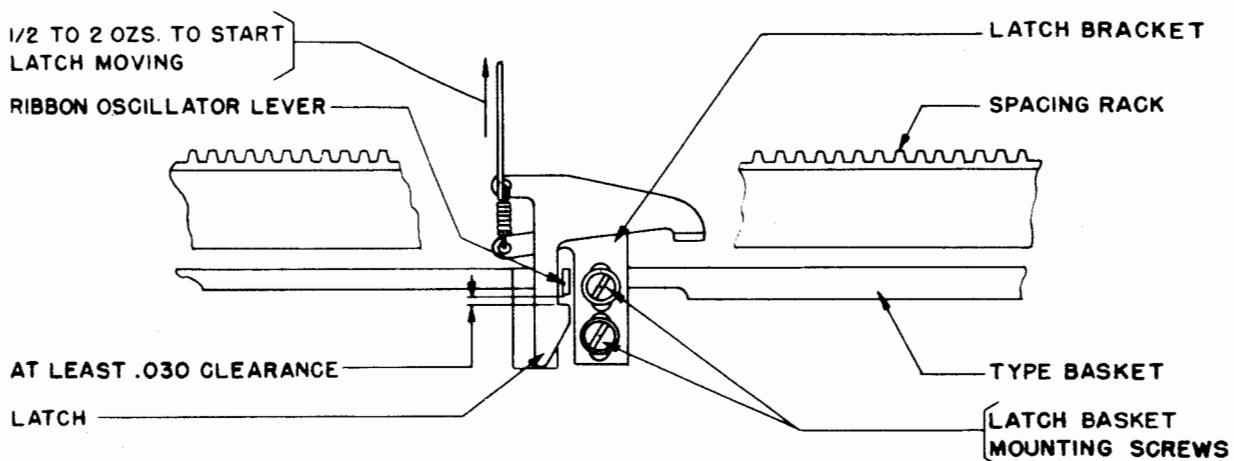

Figure 8
against the ribbon there should be some clearance, maximum 0.025 inch, between the bottom edge of the imprint made by the comma and the top edge of the red portion of the ribbon. See Figure 8.
With the ribbon-oscillator lever held to the rear of the type basket so that it just touches either the carriage-frame casting or the lock-nut for the upper-carriage-track roller, there should be at least 0.030 inch clearance between the latch and the ribbon-oscillator lever. See Figure 8.
7.05 Ribbon-oscillator-latch Spring: With the ribbon-oscillator lever held away from its latch, hook the scale over the latch where the spring is hooked and pull in line with spring. It should require a pull of minimum 1/2 ounce, maximum 2 ounces to just start the latch moving. See Figure 8.